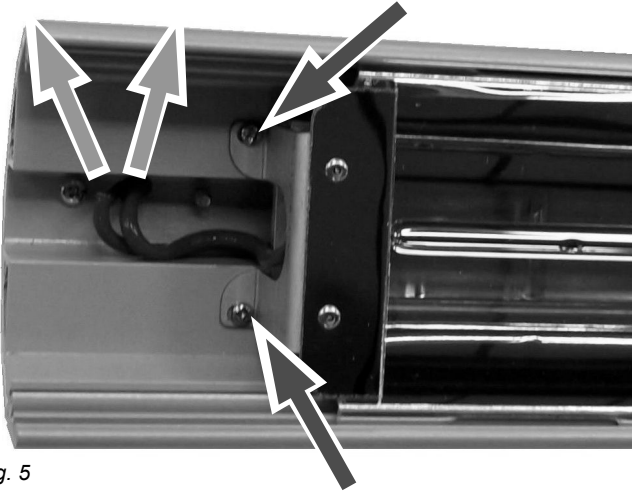

Fig. 5
7. Remove the two screws as highlighted on in Fig. 5 to take out the side reflector bracket to access the emitter holding clip. Repeat at opposite end of emitter.
8. Where the emitter wires are fed through the gasket into the terminal box (Fig. 5), gently pull the emitter wires through the body of the heater so the wires exit the terminal box.